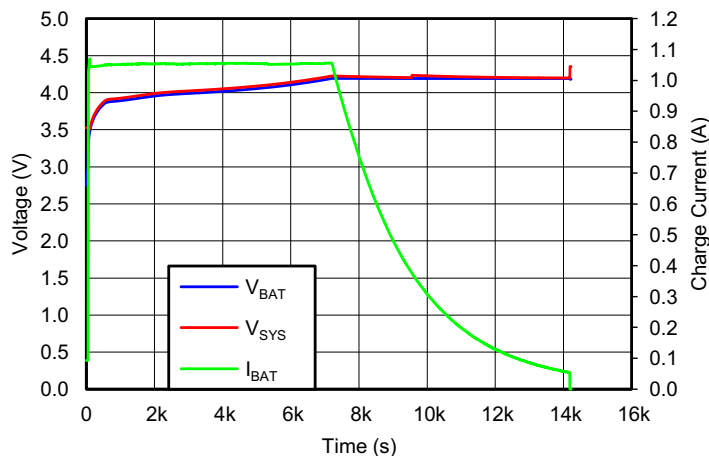

Figure 16. bq24250C Charge Profile while Charging a 2700 mAh Battery at a 1A Charge Rate
**Figure 16** demonstrates a measured charge profile with the bq24250C while charging a 2700mAh Li-Ion battery at a charge rate of 1A.